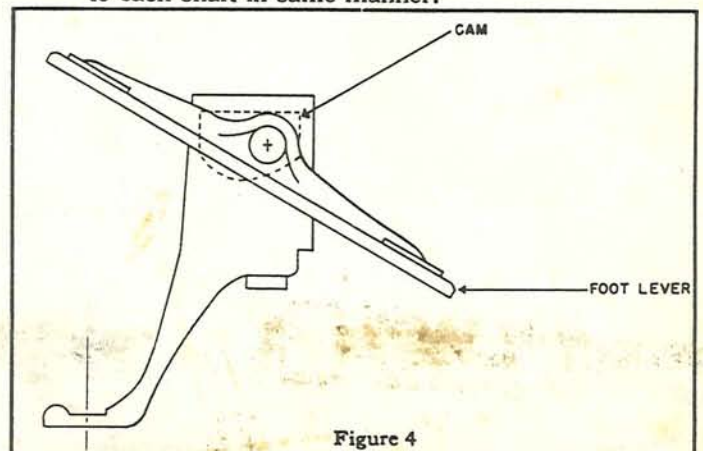

Figure 4
5. Start pin SP-2719 in foot lever. Assemble foot lever to shaft and drive pin through shaft holding parts as shown in Figure 4. Foot lever can be assembled to each shaft in same manner.